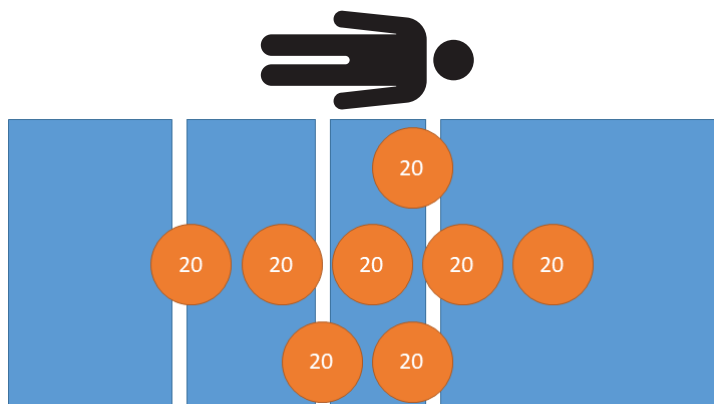

Figure 21 – Weigh performance test - 160 kg
4. Using calibrated weights, place 160 kg on the product (Figure 21).
8. Using calibrated weights, place 160 kg on the product (Figure 21).